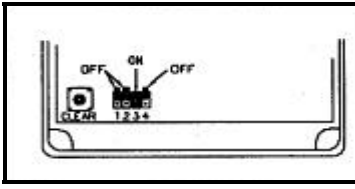

Fig. 2. CLEAR Button and Jumpers.
7. Connect the battery; a chirp will sound. (This ensures that power is properly connected.) Important: Press the small CLEAR button at the lower-left corner of the circuit board (see Fig. 2).
9. Select jumper options (J1- J4) as follows. Refer to Fig. 2. The unit is factory supplied with the Annunciator option enabled (J3 installed) and 2-Minute Shutdown alarm selected (J4 removed).